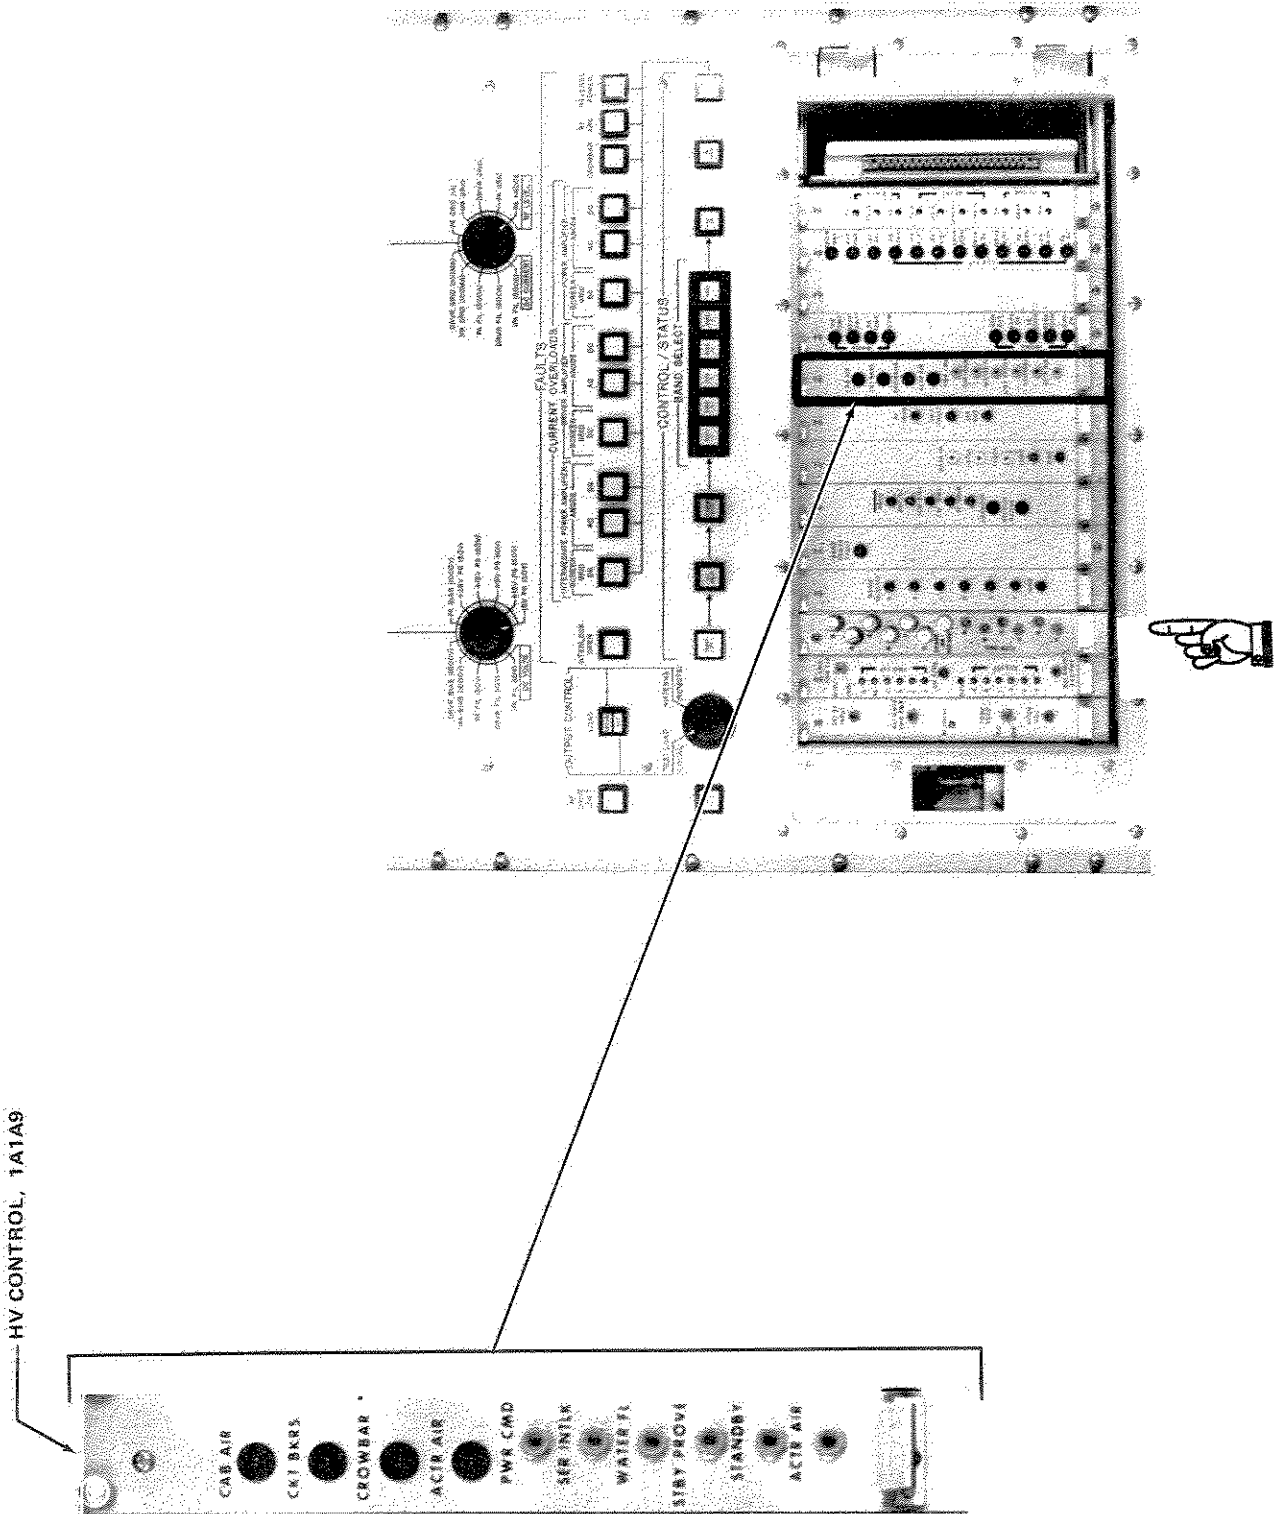

Figure 5-16. High Voltage Control Card
5-12.4 High Voltage Control. Figure 5-16 shows High Voltage (HV) Control Card 1A1A9. This card functions to initiate transmitter turn-on when STANDBY (HV OFF) switch 1A1S11 is depressed. Proof of cabinet interlock circuits, cooling air and water flow, and actuator air pressure is routed through this card. The card also contains relays for remote control of the HVPS. Table 4-10 lists and describes high voltage control card test points and fault indicators. The CCA also controls the state of the following lamps on CONTROL/STATUS panel 1A1: